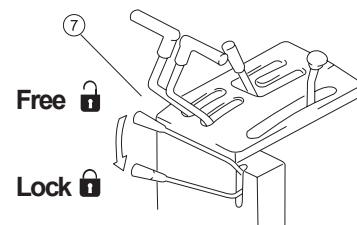

Figure 2-9
The gear shift's lock lever (7) (Figure 2-9)